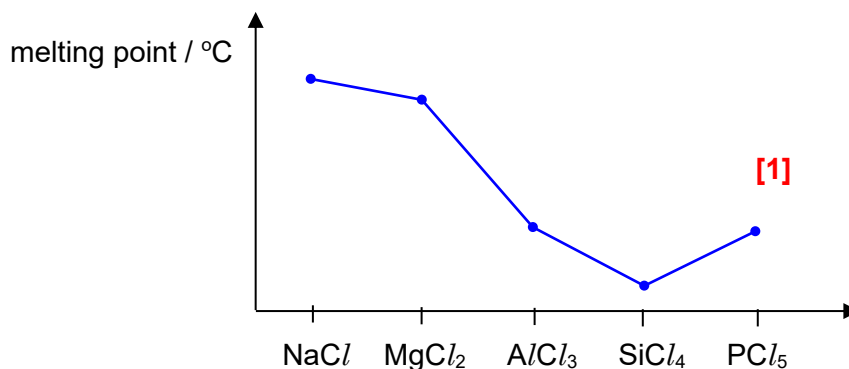

Fig. 7.3
- (i) Sketch the general trend of melting point of the chlorides in Fig. 7.3.